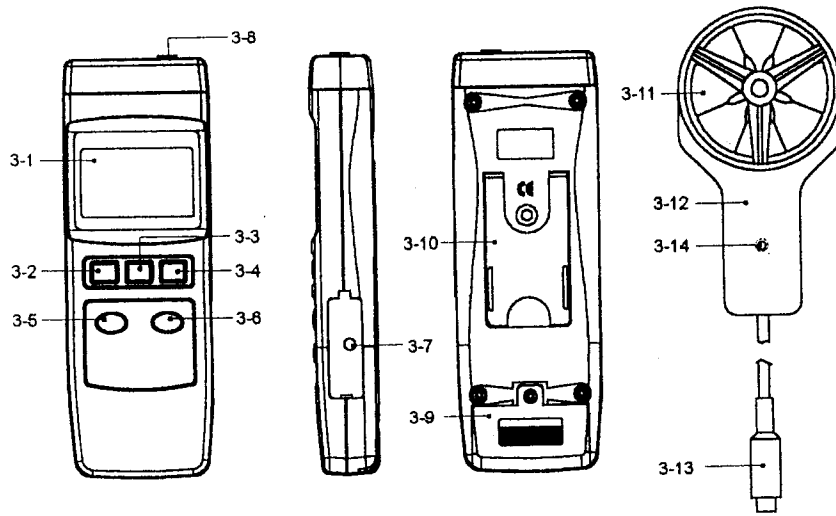

Fig. 1
- 1) Install the " Probe Plug " (3-13, Fig. 1) into the " Input Socket " (3-8, Fig. 1).
- 2) Power ON the meter by pressing the " Power Button " (3-2, fig. 1).
- 3) a. Select the desired air velocity unit (m/s, km/h, mph, knots, ft/min) by pusing the " unit Button " (3-5, fig. 1).
b. Select the desired temperature units by pusing the " °C/°F Button " (3-6, fig. 1).
- 4) Use the hand (or tripod installation) to hold the " Probe Handle " (3-12, Fig. 1), face the " Vane Probe Head " (3-11, Fig. 1) to the measured wind. In the same time the air velocity and the temp. value will show on the LCD display.
- a. During the measurement, pushing the " Data Hold Button " (3-3, Fig. 1) will hold the measured value & the LCD will indicate " HOLD " symbol.
- a. The data record function records the maximum and minimum readings. Press the " REC. Button " (3-4, Fig. 1) to start the Data Record function and there will be a " REC " symbol on the display.
- * Press the " REC Button " (3-4, Fig. 1) once, the " REC Max " symbol along with the maximum value will appear on the display.
If intend to delete the maximum value, just press " Hold Button " (3-3, Fig. 1) for a while, and then the display will show the " REC " symbol only & execute the memory function continuously.
- * Press the " REC. Button " (3-4, Fig. 1) again, the " REC Min " symbol along with the minimum value will appear on the display.
If intend to delete the minimum value, just press " Hold Button " (3-3, Fig. 1) for a while, and then the display will show the " REC " symbol only & execute the memory function continuously.
To disable this function, Select the memory record function during the measurement by pressing the " REC. Button " (3-4, Fig. 1).
The instrument has RS232 PC serial interface via a 3.5 mm terminal (3-7, Fig. 1).
- 2) Slide the " Battery Cover " (3-9, Fig. 1) away from the instrument and remove the battery.